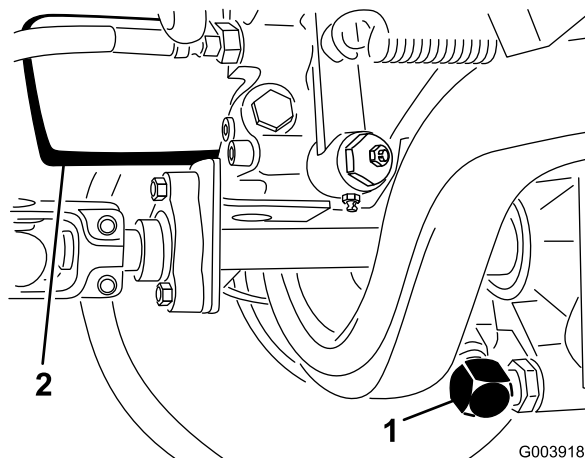

Figure 63
- Clean the area around the suction line on the bottom of the transmission (Figure 63) and place a drain pan under the line.
- Clean the area around the filter mounting area (Figure 63) and place drain pan under filter.